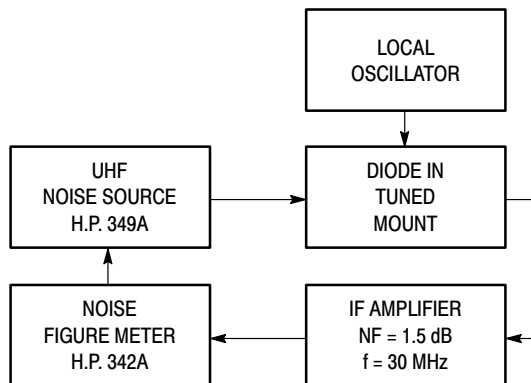

Figure 5. Noise Figure Test Circuit
- Note 2 — Noise figure measured with diode under test in tuned diode mount using UHF noise source and local oscillator (LO) frequency of 1.0 GHz. The LO power is adjusted for 1.0 mW. IF amplifier NF = 1.5 dB,  $f = 30\text{ MHz}$ , see Figure 5.